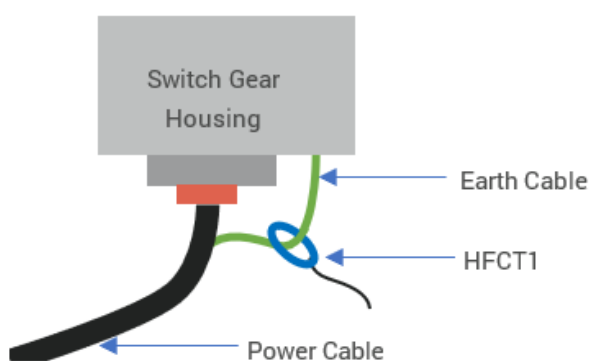

Figure 3
1. By monitoring the earth cable only (Figure 3), this is the preferred connection method.